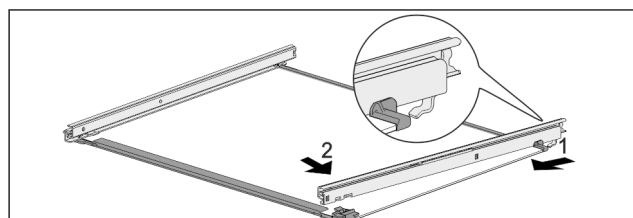

Fig. 59 Glass shelf with rails
- Hook in rail at the back. Fig. 59 (1)
- Hook in rail at the front. Fig. 59 (2)